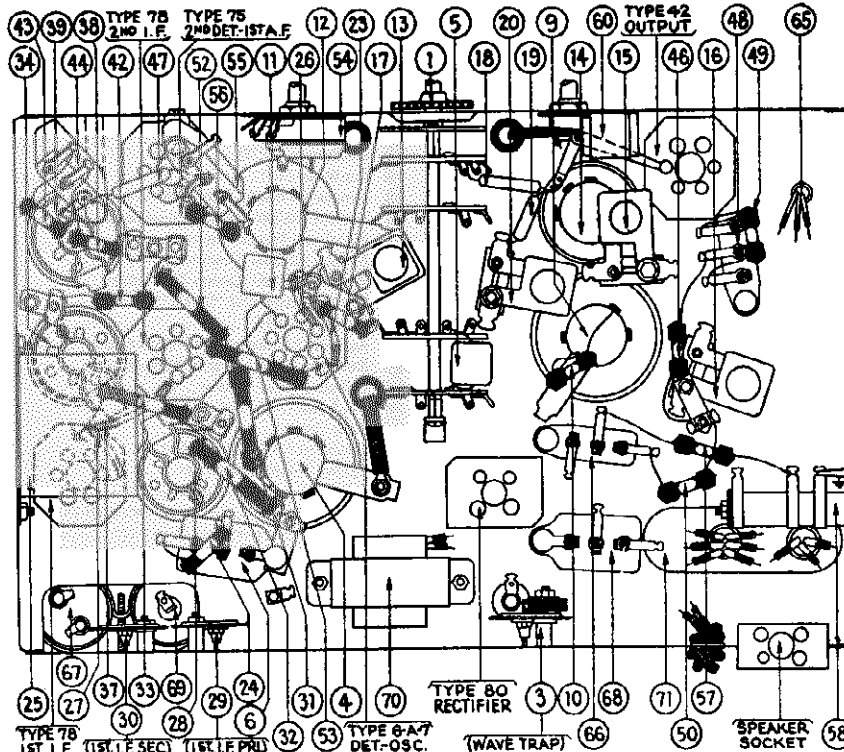

FIG. 4—Bottom View of Chassis, Showing Parts, and Position of Compensating Condensers Located,—and Reached,—from Below Chassis.
The output meter is connected to the primary terminals of the Output Transformer. Set the signal generator of the Model 048 at 460 K.C.,—the intermediate frequency of Model 44,—and adjust each of the I.F. compensating condensers in turn, to give maximum response in the output of the receiver. The location of the I.F. compensating condensers is shown in Figure 2 and Figure 4. Figure 2 shows the position of the compensating condensers of the 2nd. I.F. Transformer (24) and of the 3rd. I.F. Transformer (20). Each of these transformers has its dual compensating condenser mounted at its top, and accessible through a hole in the top of the coil shield. In the dual compensators, the Primary circuit is adjusted by the SCREW; the Secondary circuit is adjusted by the hex-head nut. The adjustment of the primary and secondary circuits of the 1st. I.F. Transformer (25) is made by means of two single compensating condensers (28) and (29) mounted underneath, and at the rear of the chassis and accessible from the rear. They are shown in Figures 2 and 4.
Turn the Wave-Band Switch to Range 2, and adjust the Station Selector to 3.6 M.C. The "Antenna" connection between the Signal Generator and the receiver chassis must be removed for this adjustment. The output of the Signal Generator will be too great, otherwise. Adjust the compensating condenser (19) to give maximum response in the output circuit. This compensating condenser is located underneath the chassis and is not accessible from above. See Figure 4.
The Model 048 Set Tester is used again. Turn the Wave-Band Switch to Range 2, Station Selector to 1.5 M.C. Set the Signal Generator (Model 048) at 1500 K.C. (1.5 M.C.). The "Antenna" connection between the Signal Generator and the chassis should be restored. Adjust compensating condenser (20), located underneath the chassis, (Figure 4). Adjustment is possible from the underside of the chassis.
Place the Wave-Band Switch at Range 1, and the Station Selector to 1400 K.C. Set the Signal Generator (Model 048) at 1400 K.C. Adjust the compensating condenser (19), which is located underneath the chassis. See Figure 4. This adjustment is possible from the underside of chassis.
With Wave-Band Switch at Range 1, and Station Selector at 520 K.C., set the Signal Generator of the Model 048 at 520 K.C., and adjust the compensating condenser (10), (Figure 4). This compensating condenser is mounted underneath the chassis, and is reached from below.